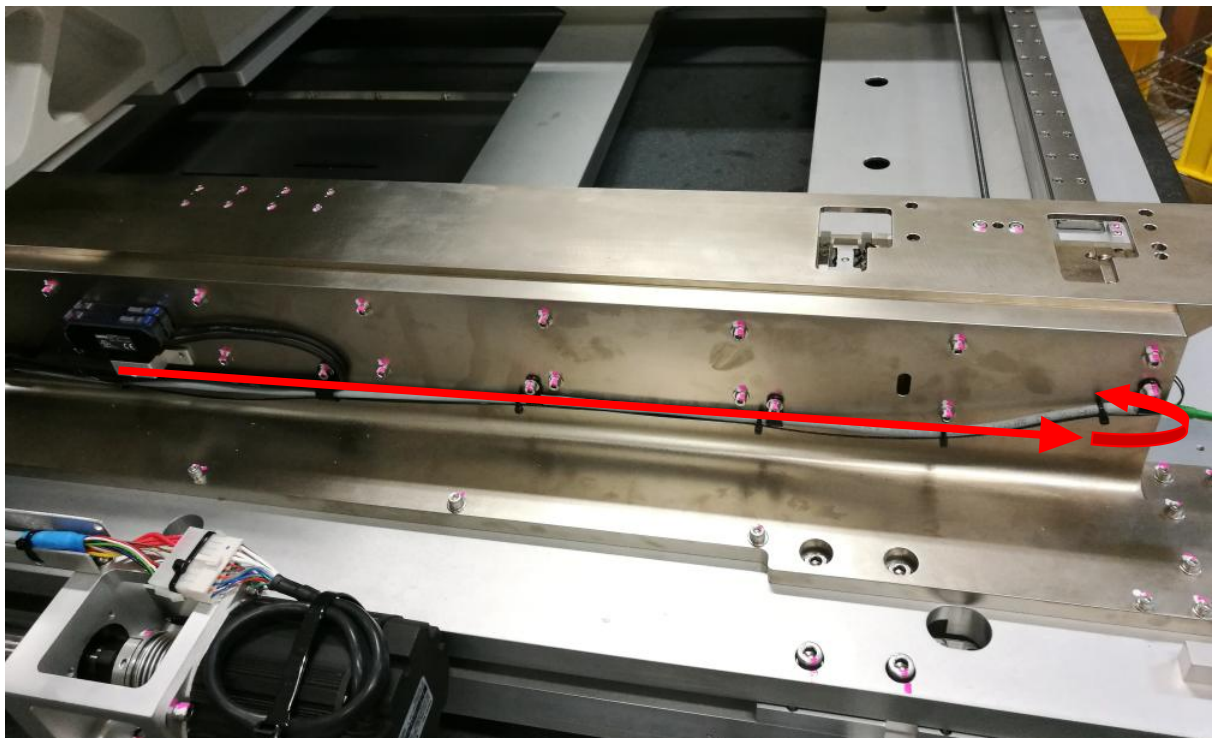
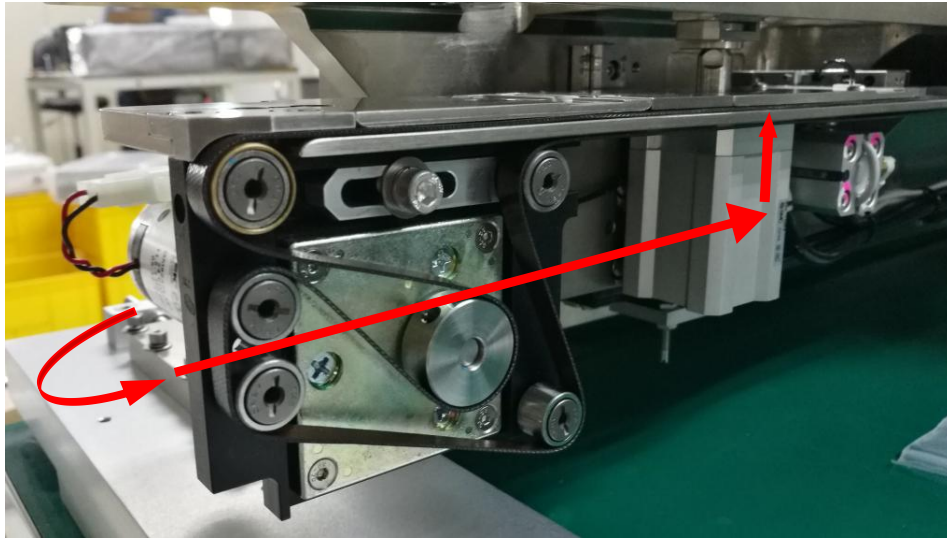

Figure 24 PIP Sensor Cable Removal
Figure 25 PIP Sensor Cable Removal
4. Remove PIP Sensor Cable by refer to below routing. May refer to Figure 24 & Figure 25